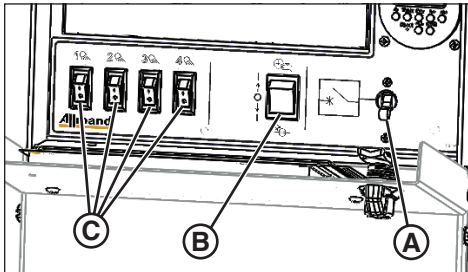

Figure 13
2. Turn the main circuit breaker (**A**, Figure 13) to the ON position.
4. Turn the Tower / Light switch (**B**, Figure 13) to the LIGHT position.
5. Turn the individual light switches (**C**, Figure 13) (1 - 4) to ON (if set to OFF).
1. Turn the Photocell / Timer switch (**B**, Figure 13) to the TIMER position.
Turn the Photocell / Timer switch (**B**, Figure 13) to the PHOTOCCELL position. The lights will automatically come on in the absence of ambient light.
Turn the Photocell / Timer switch (**B**, Figure 13) to the TIMER position.